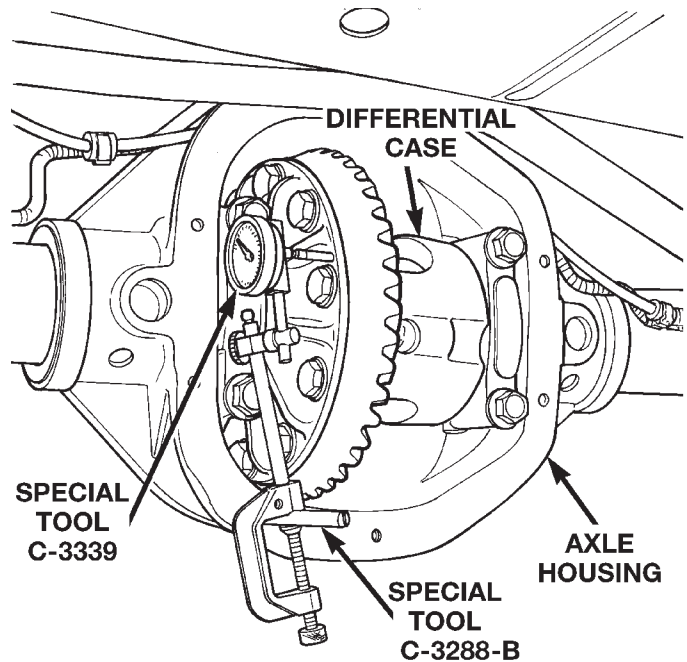

Fig. 54 Differential Side play Measurement
- (8) Thread guide stud C-3288-B into rear cover bolt hole below ring gear (Fig. 54).
- (9) Attach a dial indicator C-3339 to guide stud. Position the dial indicator plunger on a flat surface between the ring gear bolt heads (Fig. 54).
(20) Position the dial indicator plunger on a flat surface between the ring gear bolt heads. (Fig. 54).